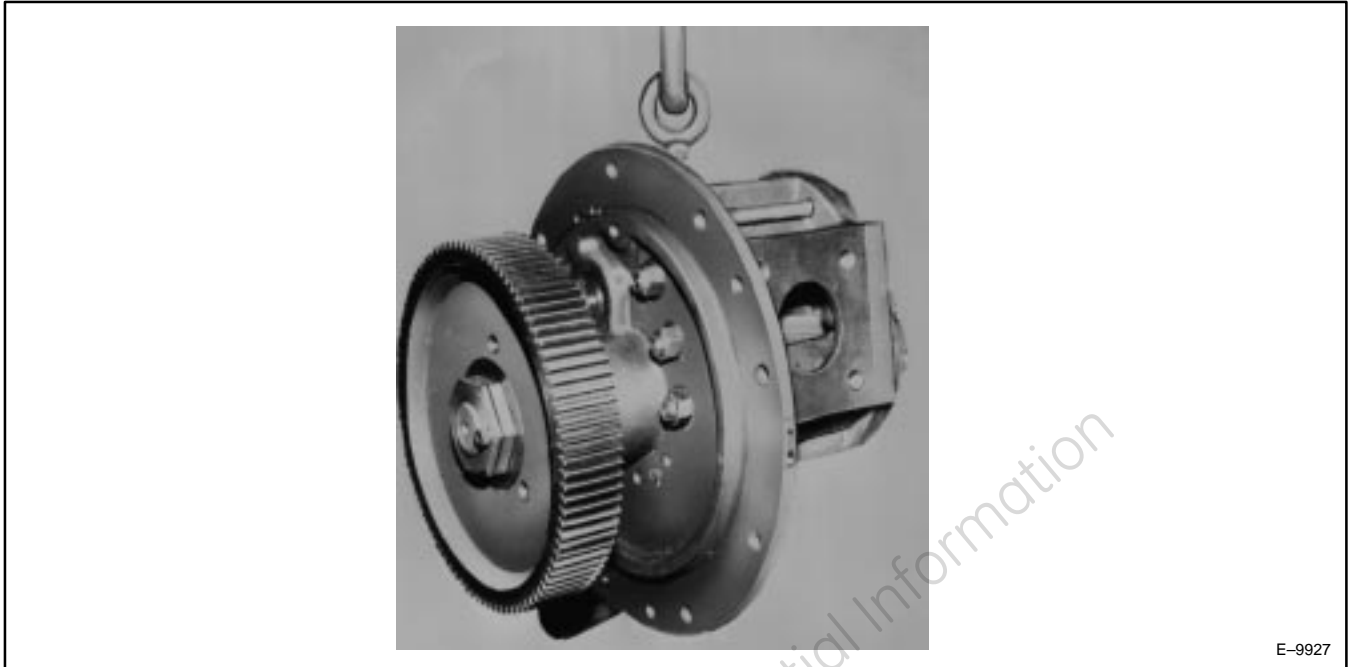

Figure 62. Lubricating-Oil Pump.
- 2. Remove the four (4) bolts from the discharge pipe flange at the pump (Figure 62).
- 4. Remove the lubricating-oil pump mounting bolts. Install three (3) jack bolts in the threaded holes in the pump mounting flange and evenly jack the pump from its rabbet fit. Lift and remove the pump from the engine.